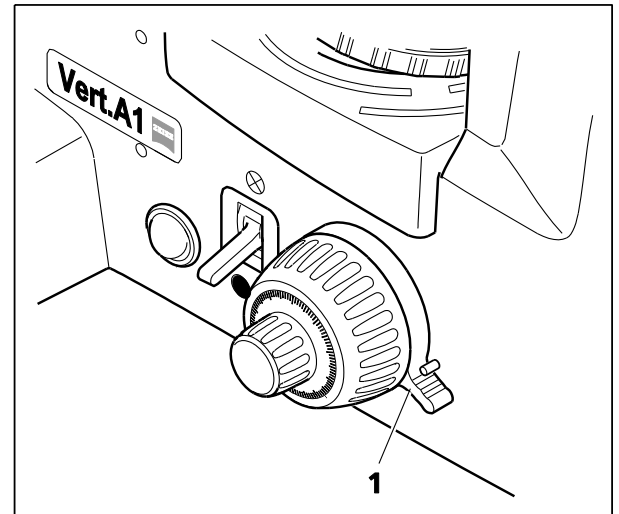

Fig. 4-2 Height Stop of the Focusing Drive
- Turn the clamping lever of the stop (Fig. 4-2/1) upward against the pin.